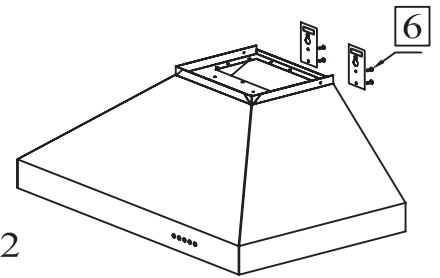

fig.2
**Step three:** If your hood comes with separate mounting brackets, they must be installed to the back of the hood at this point. fig.2 Otherwise your mounting points are integrated into the construction of the hood.